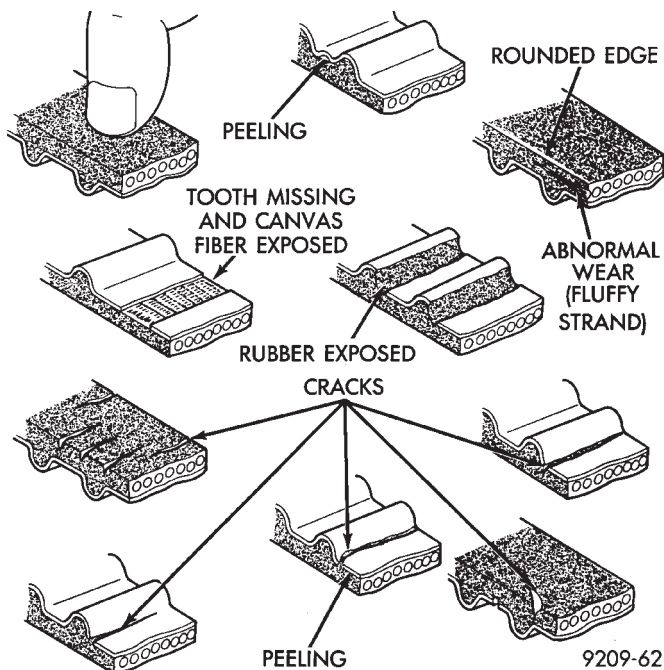

Fig. 119 Timing Belt Inspection
- Abnormal wear of belt sides. The sides are normal if they are sharp as if cut by a knife (Fig. 119).
- (3) If none of the above conditions are seen on the belt, the belt cover can be reinstalled.